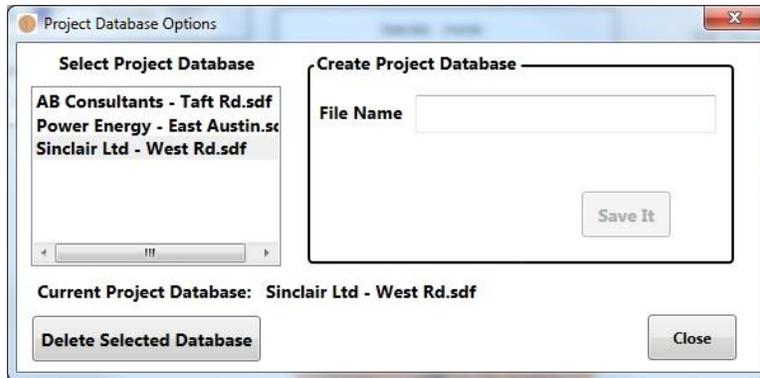

Figure 3-12. Database Options
- *DB Options* – When the **Database** button is clicked, the Database Options dialog is displayed as shown in Figure 3-12. The dialog shows that three D-Calc databases that were created by the current user. “Sinclair Ltd – West Rd” was selected as the current project database. Databases can also be deleted by clicking the **Delete Selected Database** button. If the user attempts to delete a database, the prompt “Are you sure you want to delete this database? If you do, all project data will be lost” is displayed.